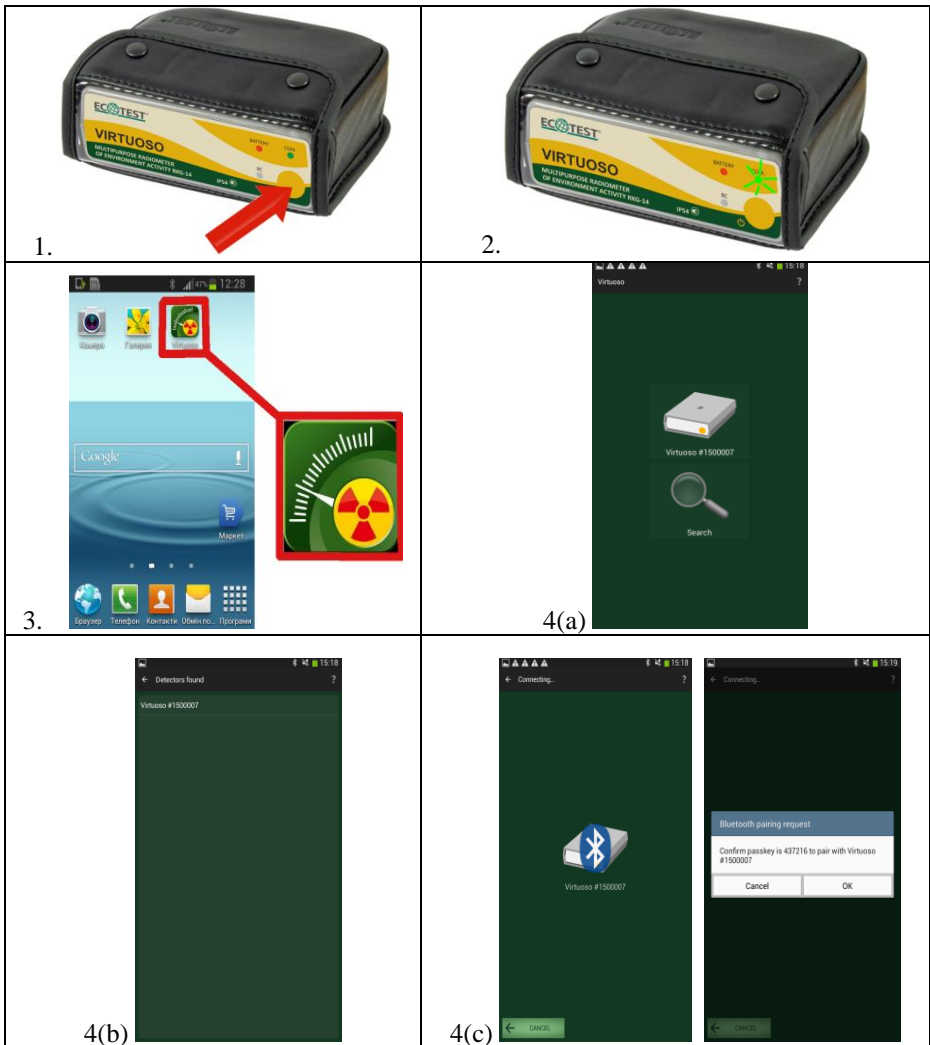

Figure 2.2 - Connecting the Android device to the detector
To connect the Android device to the detector, do as follows (see Fig. 2.2):
4 If the required detector has already connected to the Android device, choose it from the list in the start window (see Fig. 2.2 (4a)).
4.1 Tap "Search". If the Bluetooth-device of the Android-device is disconnected, you will be asked for permission to turn it on. It is necessary to allow enabling the Bluetooth device. The Android device will perform search and show a list of found "VIRTUOSO" detectors (see Fig. 2.2 (4(b))). Choose the necessary detector from the list.
4.2 Confirm (if necessary) the creation of the Android-device/detector pair (see. Fig. 2.2 (4(c))). This detector will be "bound" to the Android-device and connected to it.